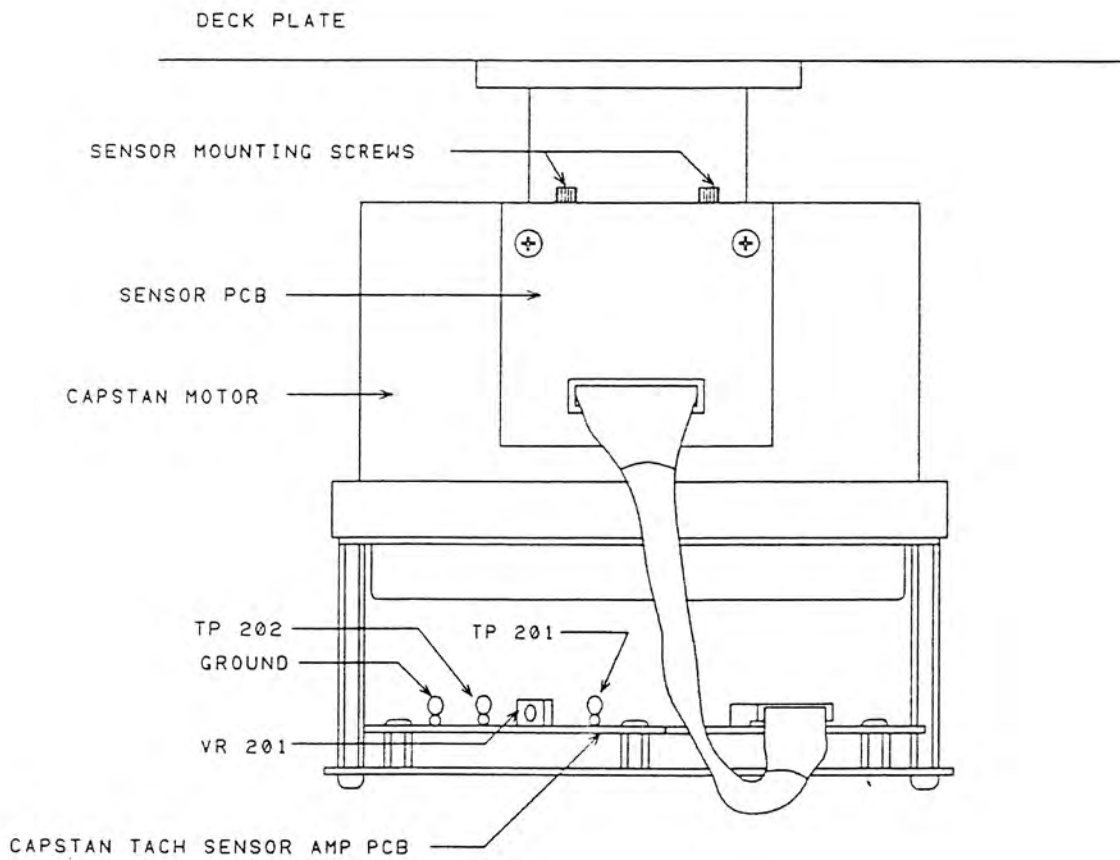

Figure 4-8 Capstan Tachometer adjustment
5. If necessary, the position of the capstan tach sensor can be adjusted to meet the above specification. Adjustment of the amplitude will also affect the phase relationship between the two signals. (Figure 4-8 b).
6. Observe the waveforms at TP 102 and TP 202. Adjust VR 101 and VR 102 until the tach pulse waveform has a 50% duty cycle (Figure 4-8 a). The phase of the signal at TP 102 should lead the signal at TP 202 by 90 degrees. If it does not adjust the position of the capstan tach sensor. Adjustment of the phase will also affect the amplitude of the signal.